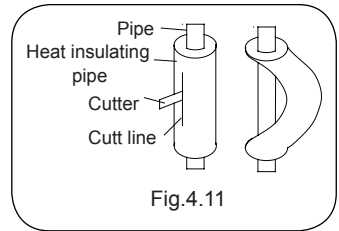

Fig.4.11
(4). When bending the pipe, do not bend it as is. The pipe will be kinked. In this case, cut the heat insulating pipe with a sharp cutter as shown in Fig.4.11, and bend it after exposing the pipe. After bending the pipe as you want, be sure to put the heat insulating pipe back on the pipe, and secure it with tape.